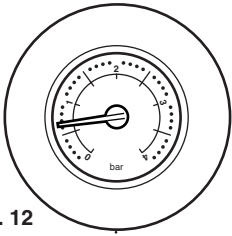

Fig. 12
2. With the system cold and the boiler not operating the pressure should be between 0.5 and 1.0 bar. During operation the pressure should not exceed 2.5 bar, and will normally be between 1.0 and 2.0 (Figs. 12 & 13).